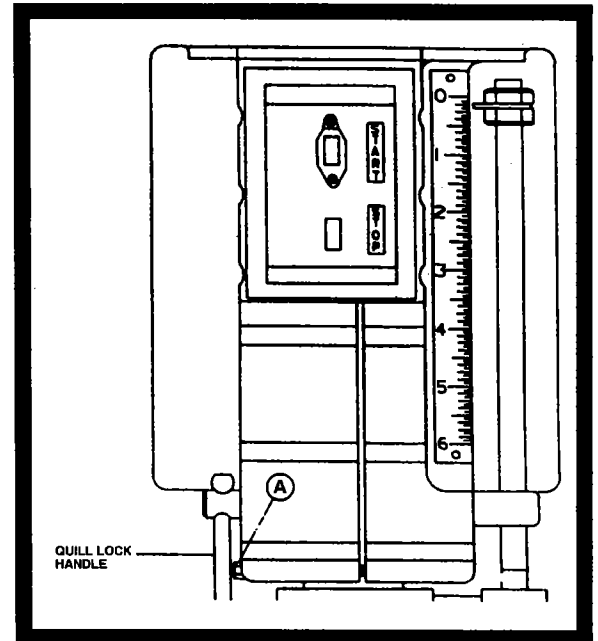

FIGURE 4
- a. Be sure quill lock handle (Fig. 4) is loose.
- b. Squeeze slotted head casting together slightly by tightening bolt (A). Apply just enough pressure to compensate for wear but do not restrict free motion down or return.
2. Loosen setscrew (C) (Fig. 4) and remove nut (D) on bottom of depth stop rod. Unscrew and remove depth stop.
3. Hold quill assembly and remove the turret pinion shaft (E). Entire quill assembly will slide out of head.